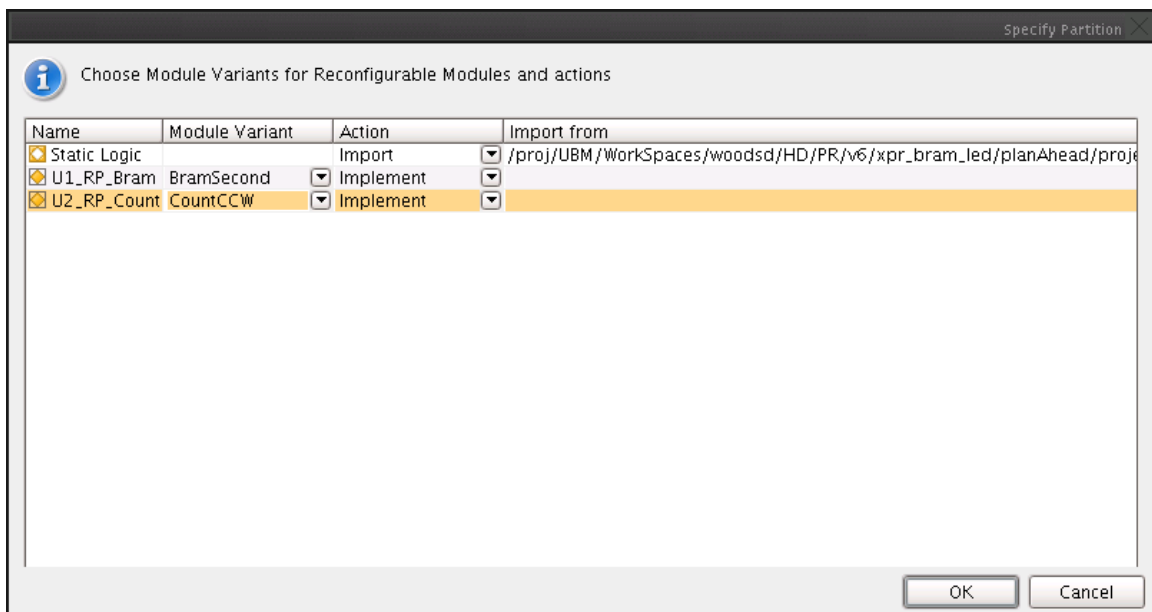

Figure 25: Choose Configurations Dialog Box (BramSecond/CountCCW)
- 10-1-8.** To create a configuration that implements the BramSecond and CountCCW RMs, change the Module Variant column to match these RMs (Figure 25).